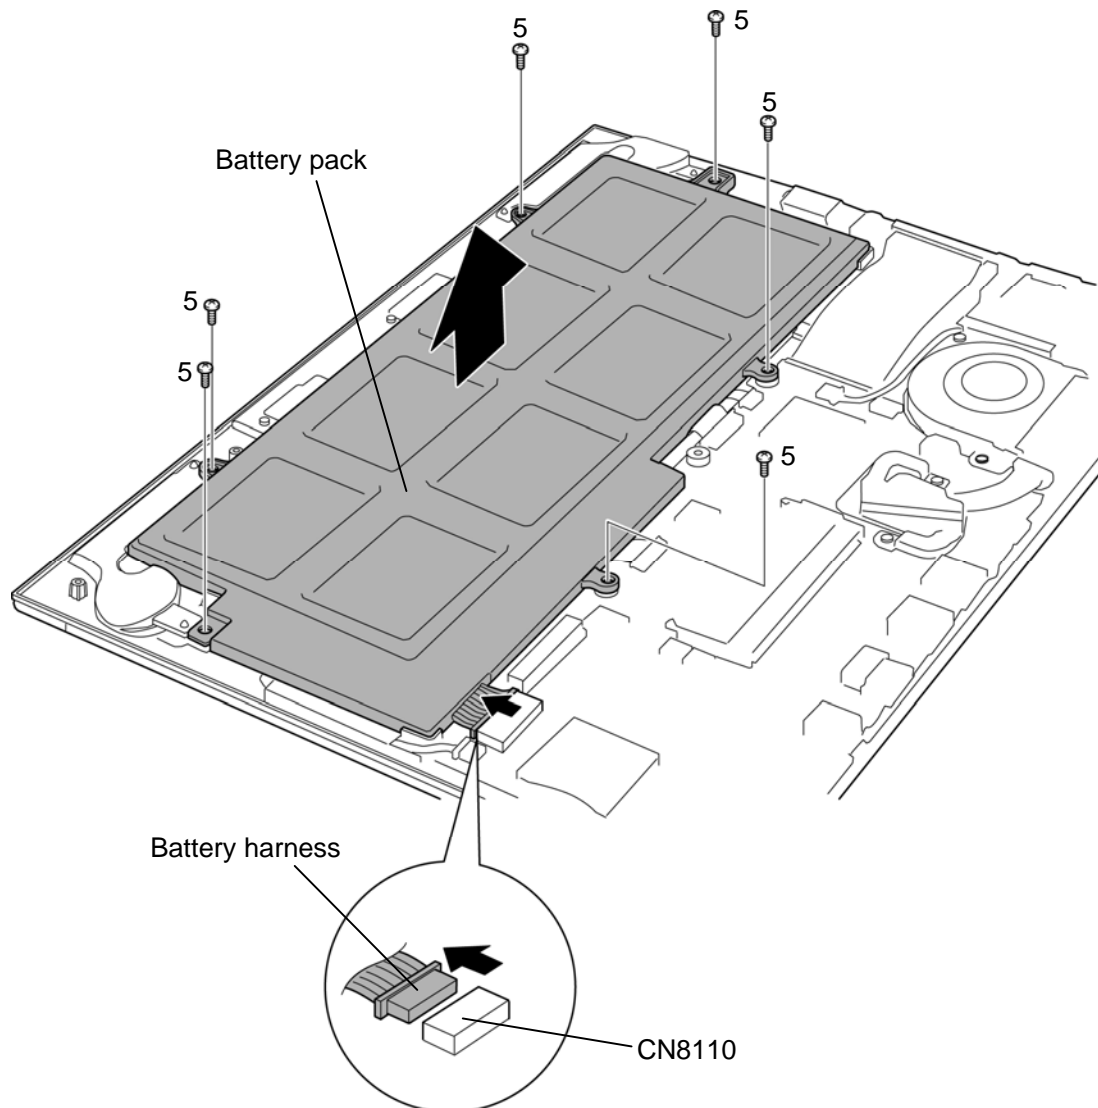

Figure 4-5 Removing the battery pack (2)
- M2.5×5C FLAT HEAD screw ×6 (Described as “5” in the Figure 4-5)